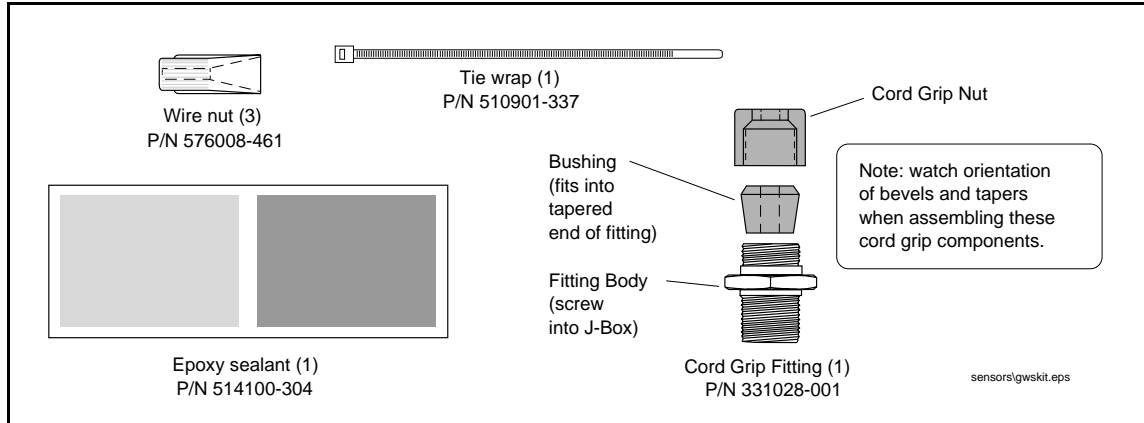

Figure 1. Installation Kit
- Figure 1. Installation Kit 4
- Installation Kit - P/N 330020-280 (Figure 1)